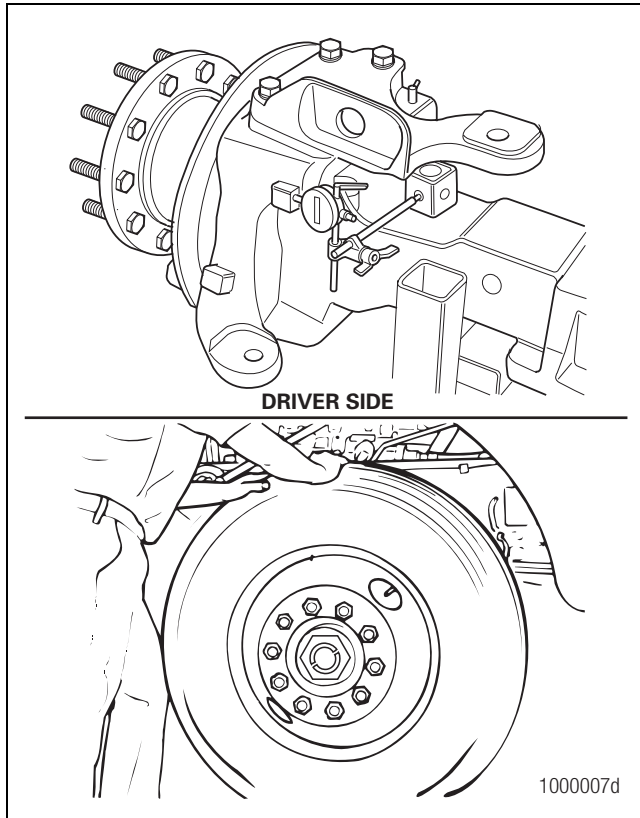

Figure 5.5
3. Check the upper king pin bushing for wear. Install the base of a dial indicator onto the axle beam. Place the indicator tip against the side of the knuckle top, curbside or against the king pin cap, driver side. Figure 5.5.
- **If the dial indicator moves a total of 0.010-inch (0.254 mm):** The upper bushing is worn or damaged. Replace both bushings in the knuckle. Refer to the appropriate maintenance manual for complete service information. Figure 5.5.